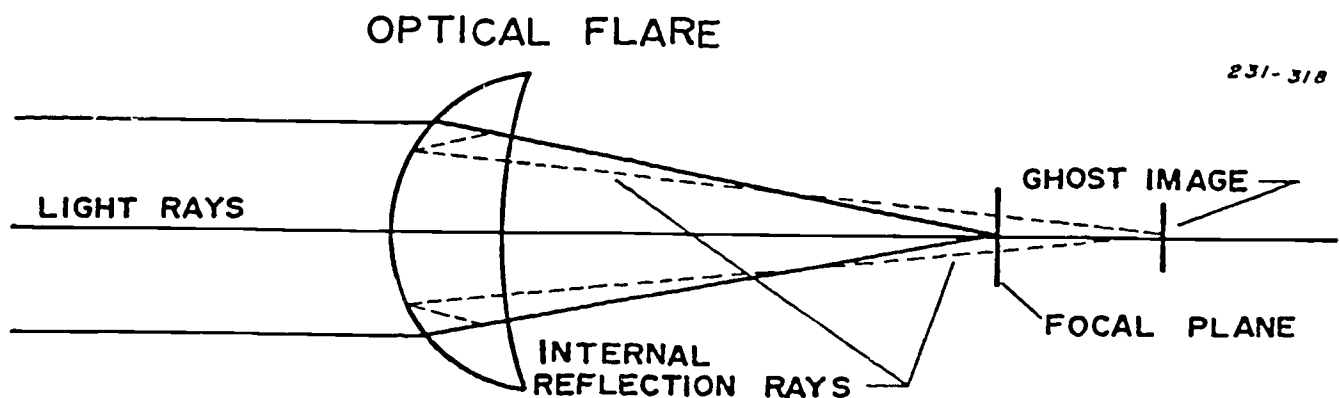

Figure 4-13. Optical flare.
**Optical Flare.** Optical flare is (fig. 4-13) caused by internal reflections from the glass-to-air surfaces of the lens. Optical flare is present to some extent in any lens